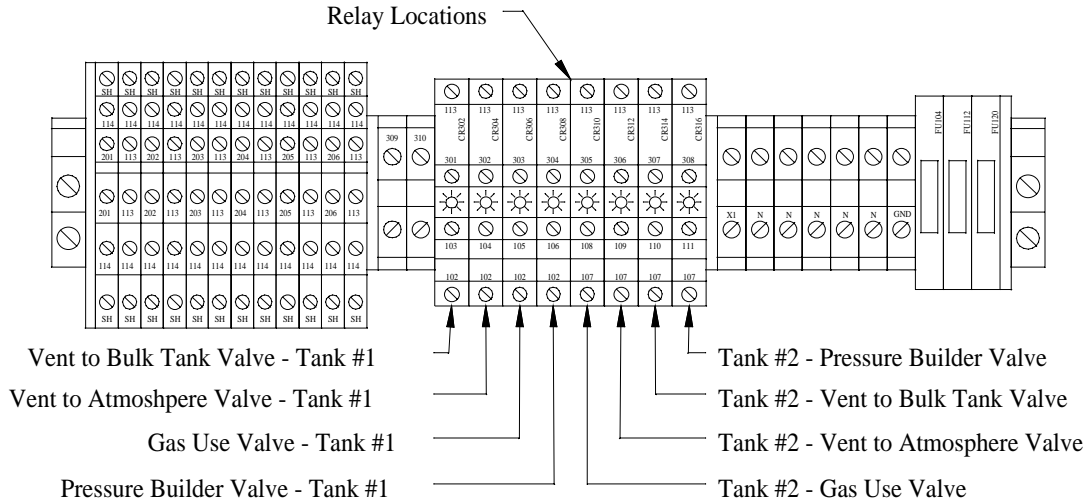

Figure 7 - Relay Identification Drawing
The control system contains eight (8) relays that control the solenoid valves on the system. The eight relays are a 5A contact rated relay. All of the relays have white LEDs that indicate whether or not the relay is currently energized. Although these LEDs provide good, quick indication of whether or not the relay is working, it is not proof that the relay contacts are operating. Figure 7 illustrates which relays control which solenoid valves. The following table lists the specifications for the relays: